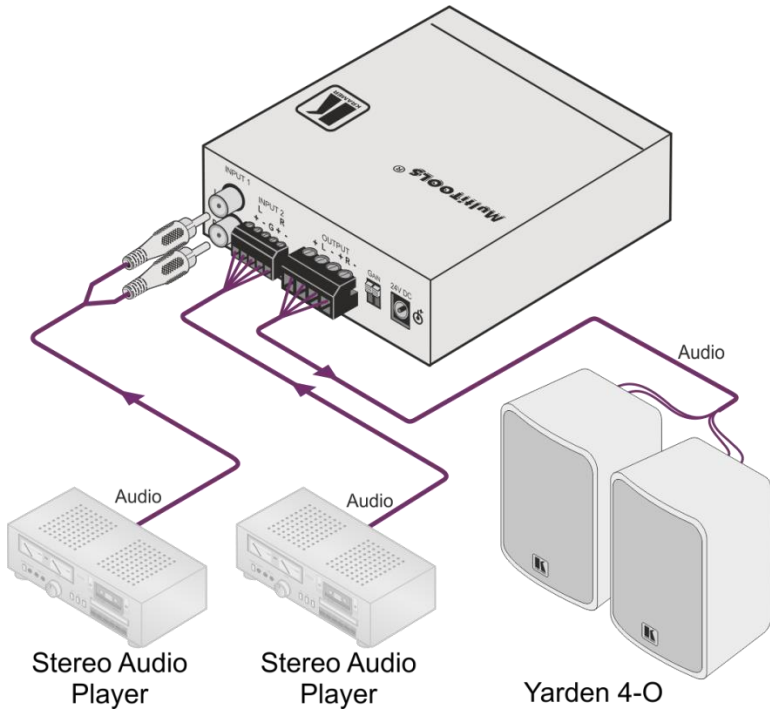

Figure 7: Connecting the Yarden 4-O
6. Repeat step 5 for the other speaker (see Figure 7).
You can connect the **Yarden 4-O** speakers to an amplifier, for example the Kramer **907xI** Power Amplifier/Mixer, as illustrated in Figure 7: